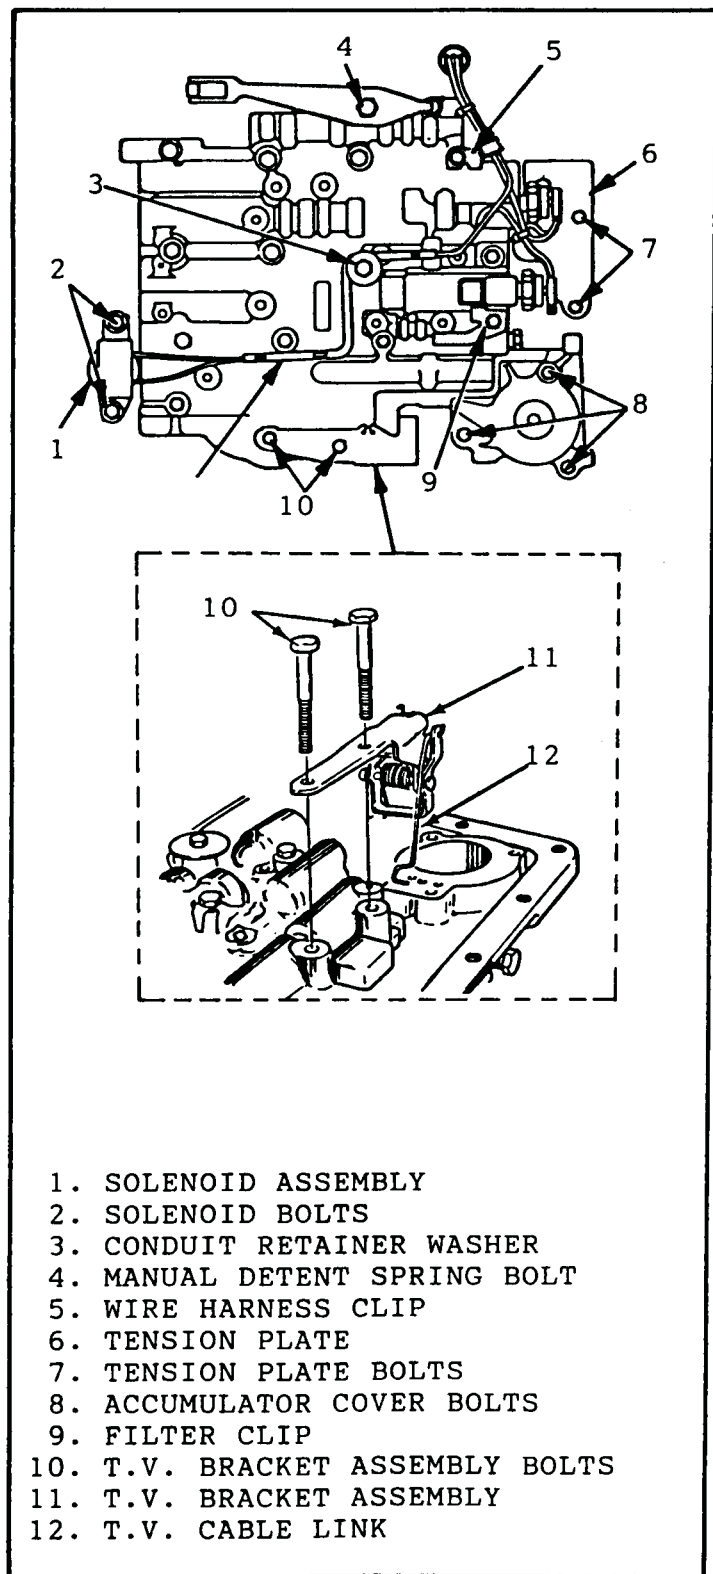

Figure 42
9. Remove T.V. lever and bracket assembly (See Figure 42).